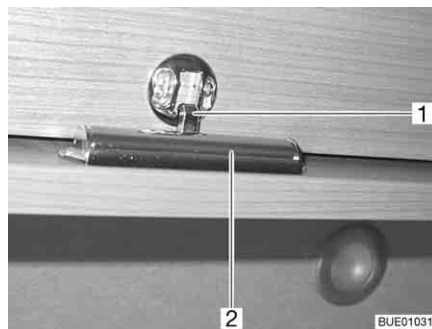

Fig. 71 Furniture flap with unlocking bar
- Press and hold the unlocking bar (Fig. 71,2) on the inside of the furniture flap.
- Press down furniture flap until the lock (Fig. 71,1) snaps into place with a click.